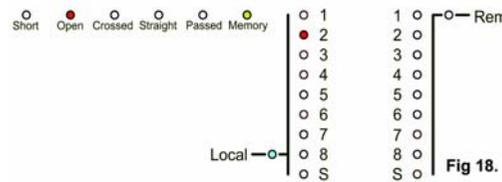

Fig 18.
6. If the OPEN LED turns ON, then the AudioJoG™ Rack 8 has found a missing connection between the cable details in memory and the current cable. The numbered and screen LED's will stop at the error stage (Fig18).